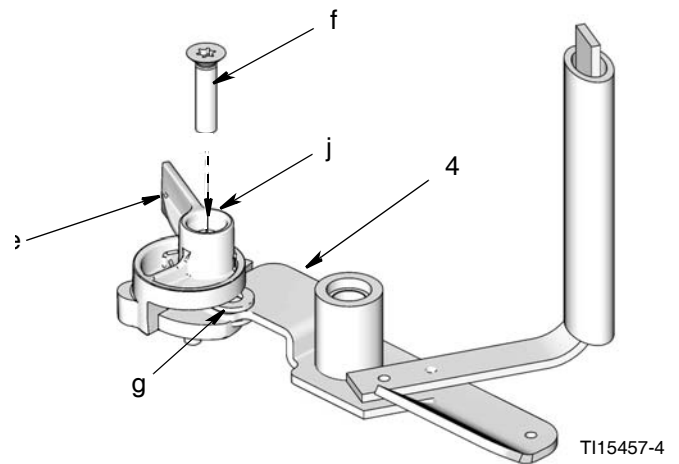

FIG. 11
- d. Align hole (j) in top of low level paddle (e) with hole in center of washers (g) and stirring paddle (4) (FIG. 11).
base of stirring paddle (4) (FIG. 11).